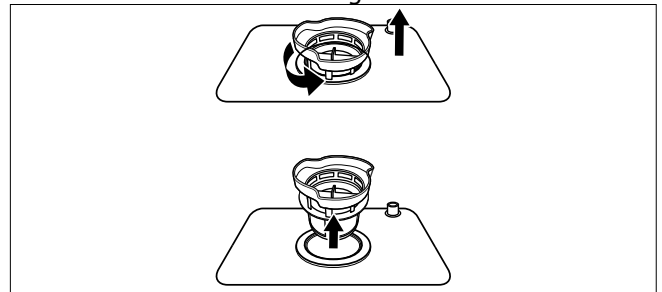

Fig. 24 – Removing the filter
- ▶ To remove the filter, twist off the fine filter and remove it (see **Fig. 24**).